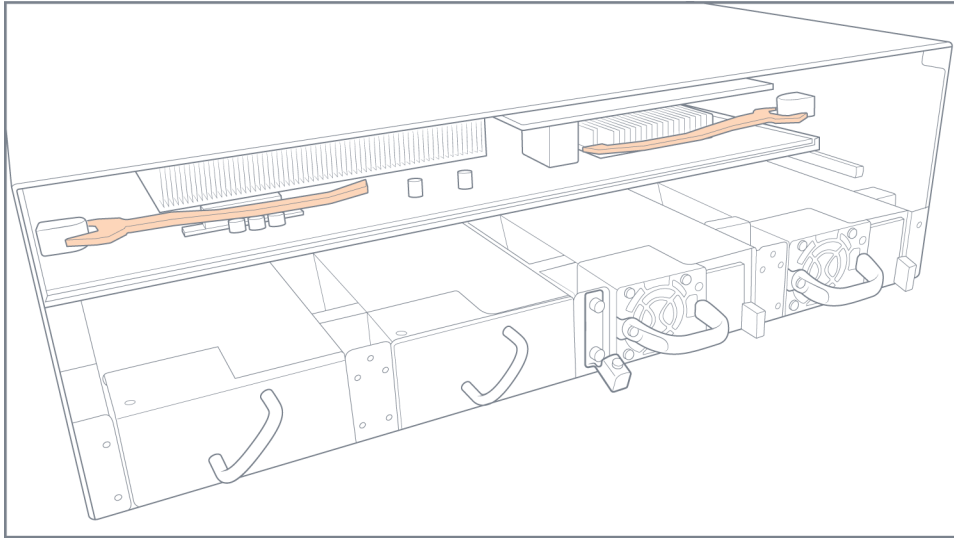

Figure 17 Control Card Location
3. Remove the fan tray as described in Removing a Fan Tray. The control card is located behind the fan tray as shown in Figure 17 Control Card Location.